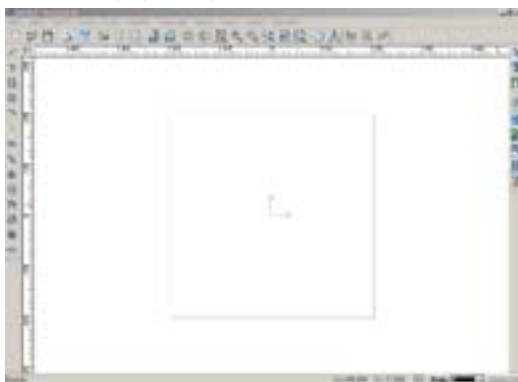

Fig. 12-1
1. Launch Ucamcam V8 software. (Fig. 12-1)